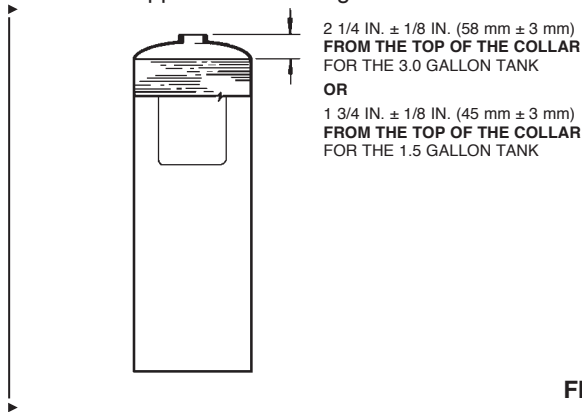

FIGURE 8-4
11. Make certain that each tank is filled with 1.5 gal (5.7 L) or 3.0 gal (11.4 L) of only ANSULEX low pH liquid fire suppressant. See Figure 8-4.